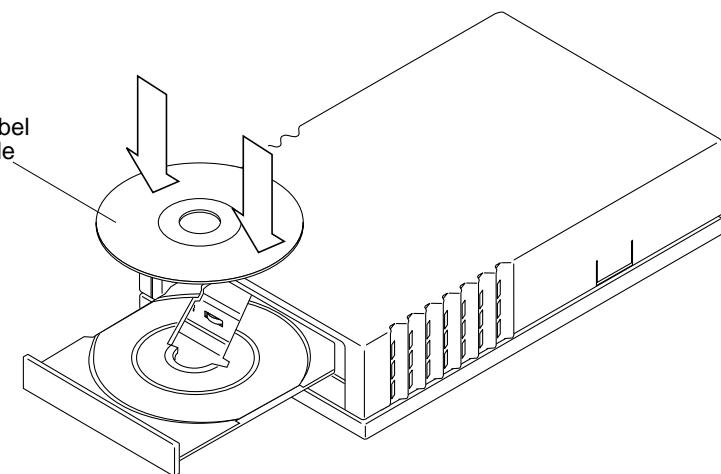

Figure 1-1 Inserting a CD into the CD-ROM Drive
- 2. Place the CD, label side up, into the tray (Figure 1-1).**